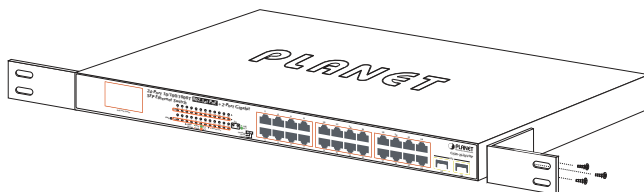

Figure 3-2: Attaching the Brackets to the 802.3at PoE+ Switch.
Step 2: Attach a rack-mount bracket to each side of the 802.3at PoE+ Switch with supplied screws attached to the package. Figure 3-2 shows how to attach brackets to one side of the 802.3at PoE+ Switch.